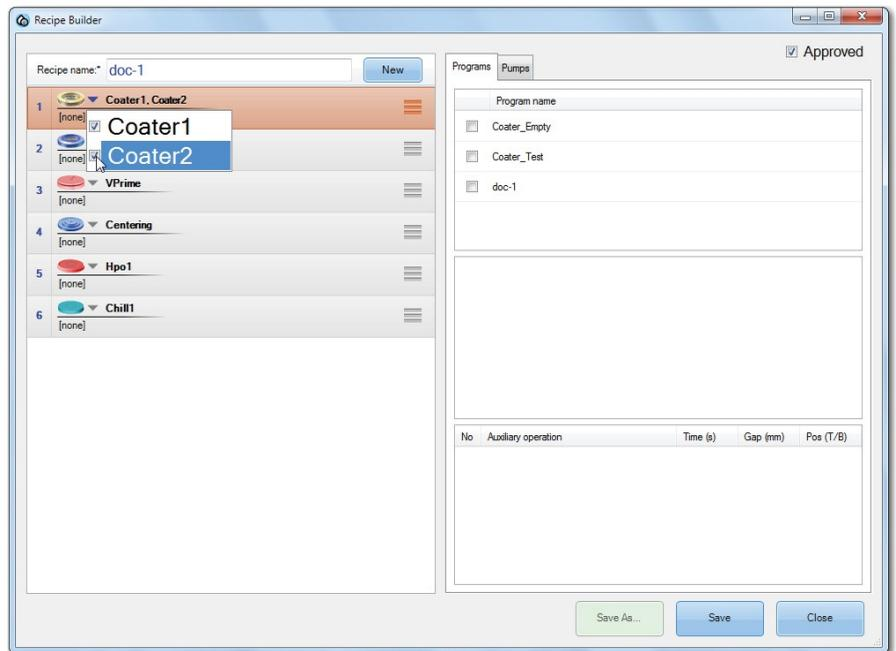

FIGURE 3-27: Selecting system modules
6. After you have selected all the modules for the work flow, click the down arrow next to each module and select the components to be used in the work flow. See Figure 3-27.